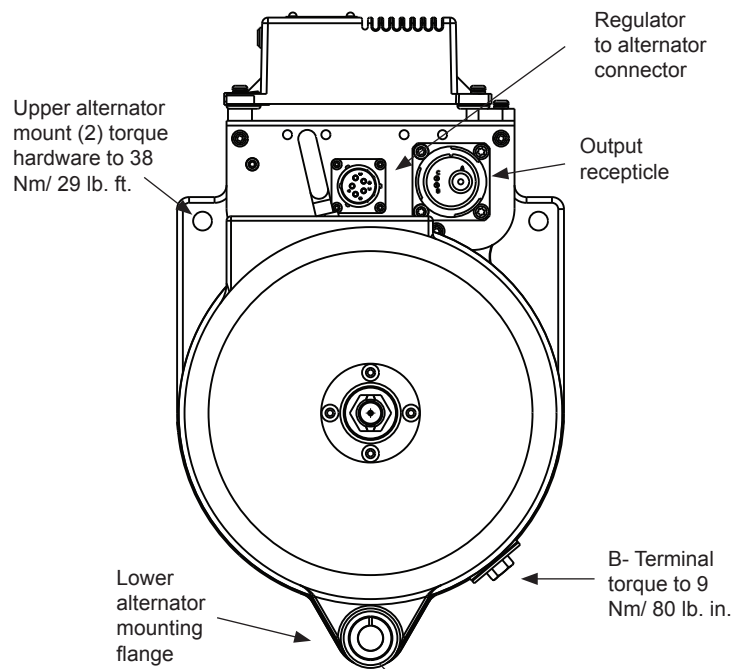

Figure 2: N1380 Installation
6. Connect vehicle receptacle to output receptacle shown in Figure 2.
7. Connect vehicle B- cable to alternator B- terminal. See Figure 2. Install cable hardware in stacking order shown in Figure 3. Torque B- terminal hardware to 9 Nm/80 lb. in.